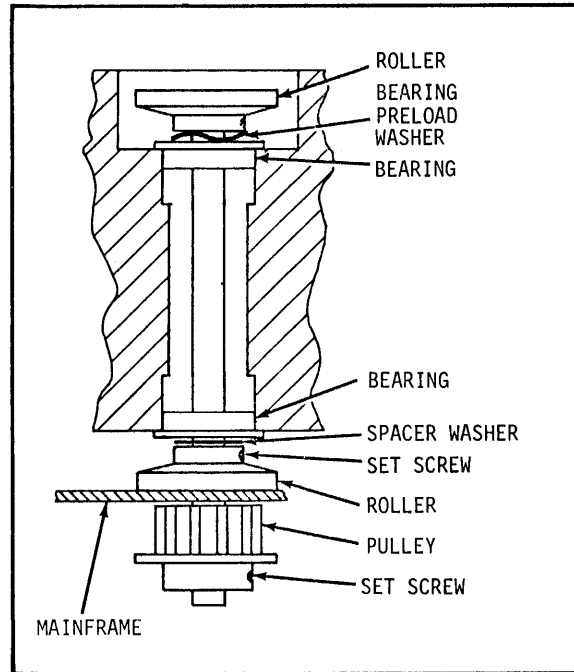

Figure 6-8. Roller Shaft Bearing Preload Adjustment
- a. Preloading the bearings can be accomplished by rotating the roller of the shaft to be adjusted to conveniently expose the set screw. Using a 1/16" Allen screwdriver, loosen the set screw in the roller, figure 6-8.